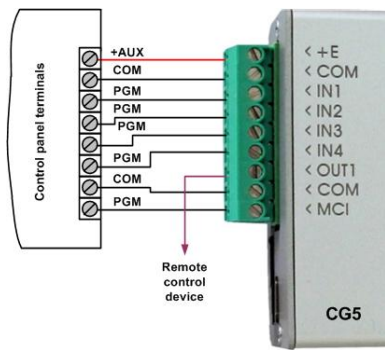

Fig.1 General wiring diagram to the control panel when constant input control mode (24 h) is set.
- a) Constant input control mode (**24 h**). After the control panel has changed the state of its PGM output, module input circuit is broken. Module CG5 immediately sends an SMS message with pre-set content to a mobile phone. When the input state restores, the module CG5 will send an SMS message about input circuit restore. General wiring diagram is given in Fig. 1.